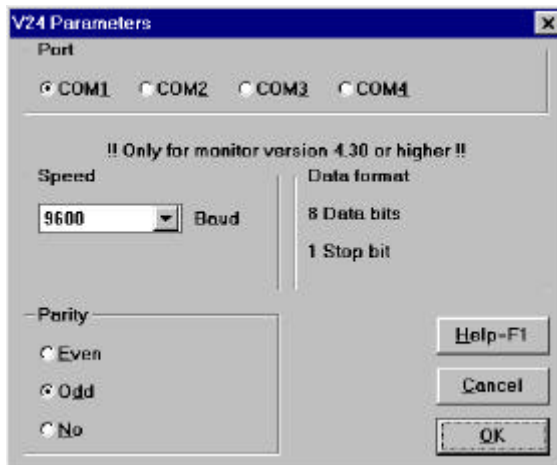

Fig. 9: KUBES interface parameters
- Connect with the PC's COM port as specified in KUBES (→ below, Fig. 9)